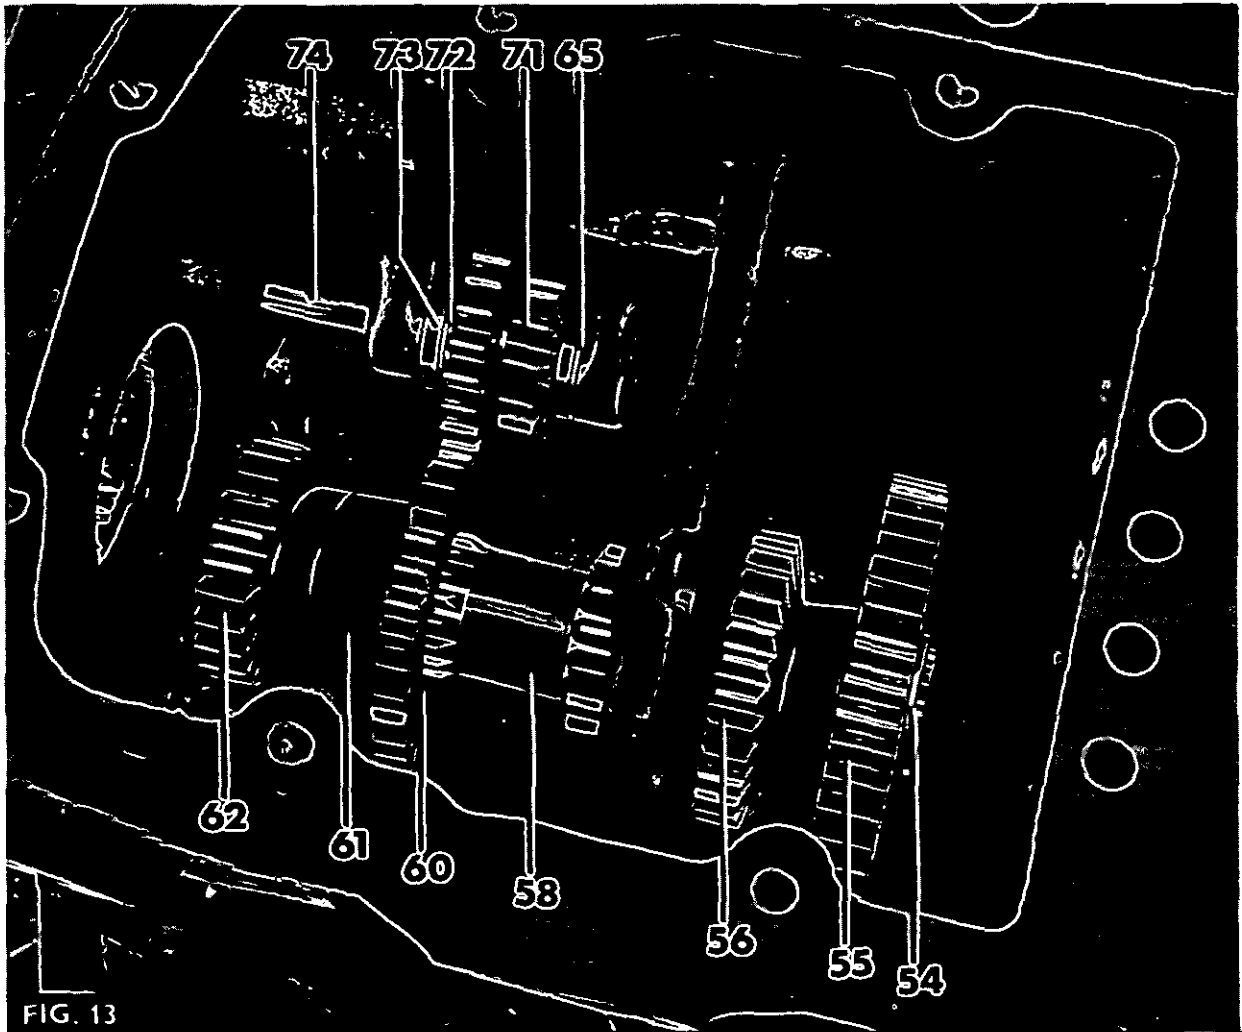

FIG. 13
3. Figure 13. Tap the layshaft forwards to expose the snap ring (60), forward of the fourth gear pinion (61). Move the snap ring (60) forwards on to the unsplined portion of the layshaft.
4. Remove the snap ring (54) from the front of the layshaft, then tap the layshaft backwards until the constant mesh gear (55) and the third speed gear (56) can be removed.
6. Using the hand press MF 200 and the adapter MF 200-25, press the centre bearing (57) from the layshaft (58).
4. Figure 4. Refit the plate (75), a new tabwasher (76) and the bolt (77). Bend up the tabwasher. The assembled gear cluster is shown in Fig. 13.